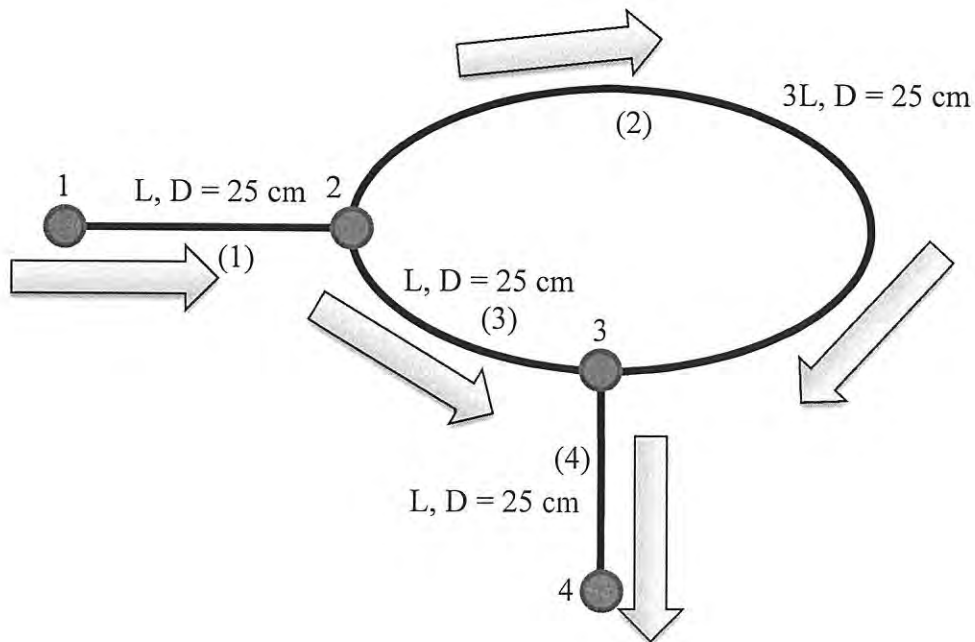

Figure Q2
Q2) Liquid with dynamic viscosity of $\mu = 0.5 \text{ N}\cdot\text{s/m}^2$ and density of $\rho = 1000 \text{ kg/m}^3$ flows through the piping network with $L = 100\text{m}$ shown in the accompanying FIGURE Q2. Determine the pressure distribution in the system if the flow rate at node 1 is $25 \times 10^{-4} \text{ m}^3/\text{s}$. For the given conditions, the flow is laminar throughout the system. We assumed that the pressure at node 1 is 40kPa and at node 4 is -4kPa.
- (a) Construct a table to discretize the given piping network of FIGURE Q2 into 4 elements and 4 nodes, as numbered. (4 marks)